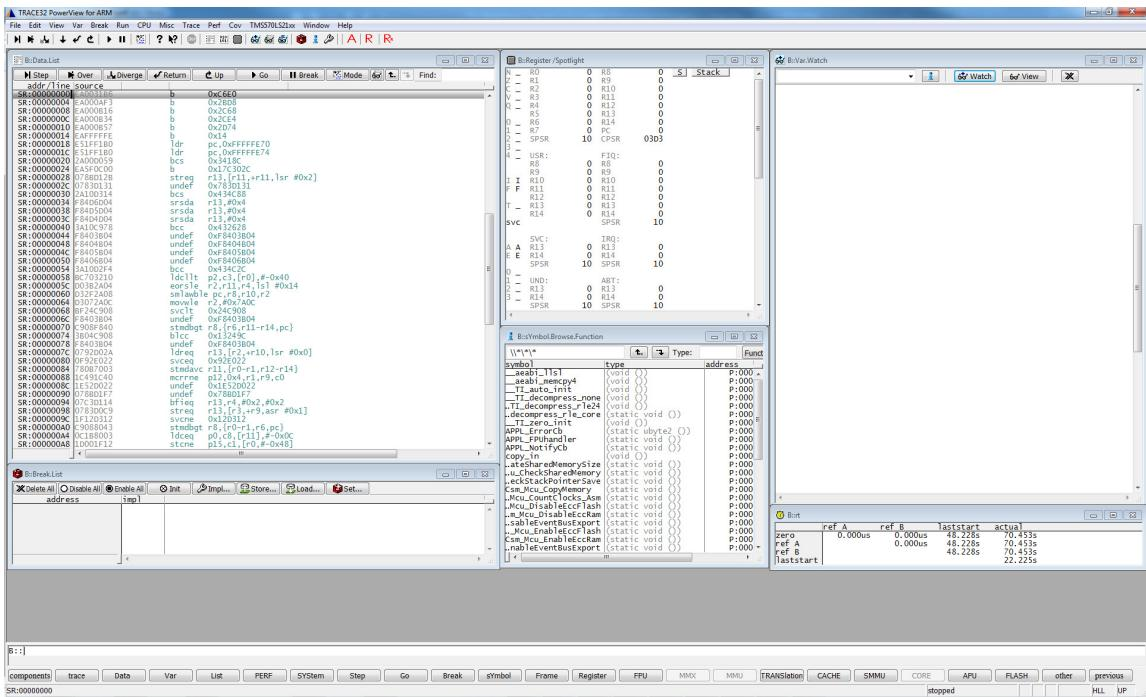

Figure 5.47: Trace32 Window after flashing
8. After the flashing procedure, you return to the Trace32 window (Figure 5.47 on the following page). Its appearance depends on the chosen windows configuration.